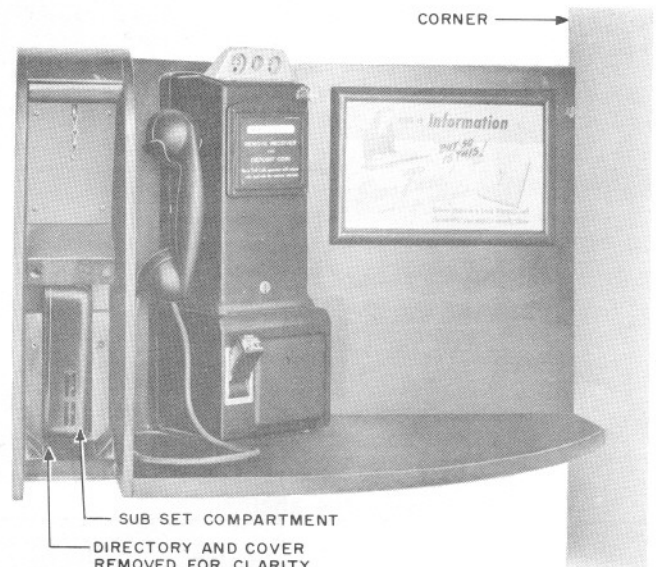

Fig. 2 — Corner Mounting, 19-type Shelf
- In a corner (narrow end should face the wall), as shown in Fig. 2.